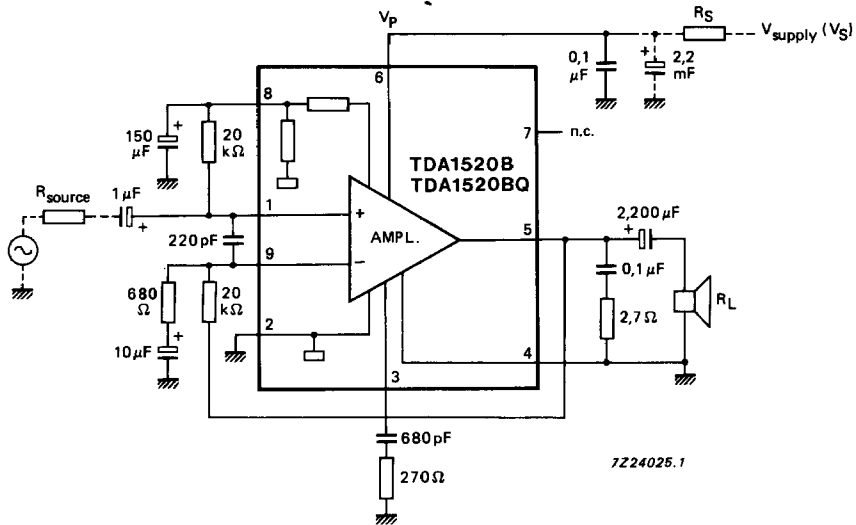

Fig. 6 Test and application diagram.
1. All values measured from test circuit Fig.6; $V_p = 33$ V; $R_L = 4 \Omega$; $f = 1$ kHz; $T_{amb} = 25$ °C; unless otherwise specified.
$V_p = 33 \text{ V}$; $R_L = 4 \text{ } \Omega$; $f = 1 \text{ kHz}$; $T_{amb} = 25 \text{ }^\circ\text{C}$; unless otherwise specified; measured from test circuit, Fig. 6.